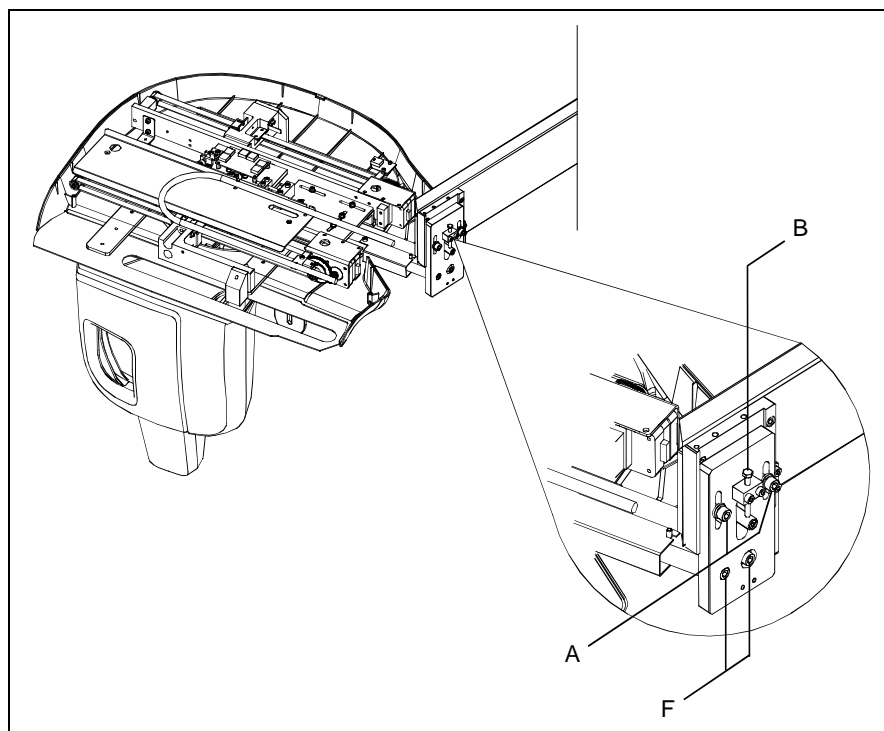
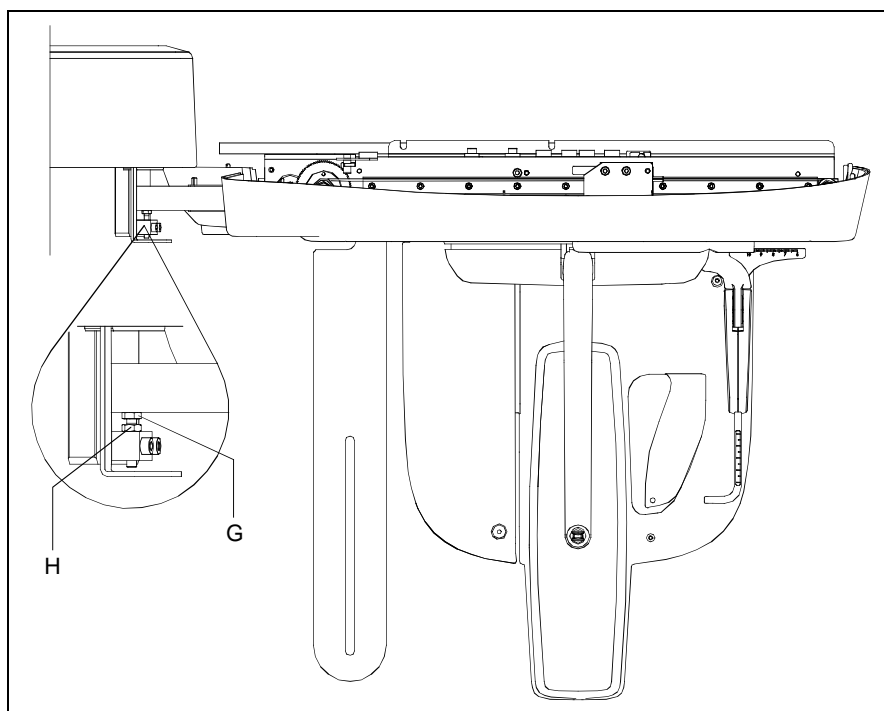

Figure 7-7
Figure 7-8
16. If it will be necessary to change the height of the CEPH arm, loose the two screws "A" (Figure 7-7), and acting on the screw "B" adjust the height of the Ceph group. Repeat from step 10 until the vertical alignment is reached. Tighten the loosened screws "A".
18. To adjust the vertical alignment between the two rings, loose the two screws "F" (Figure 7-7) and adjust the position of the arm acting on screw "G" (Figure 7-8). Once the aligned position has been reached (test exposures are required), tighten bolt "H" (Figure 7-8) and tighten screws "F".